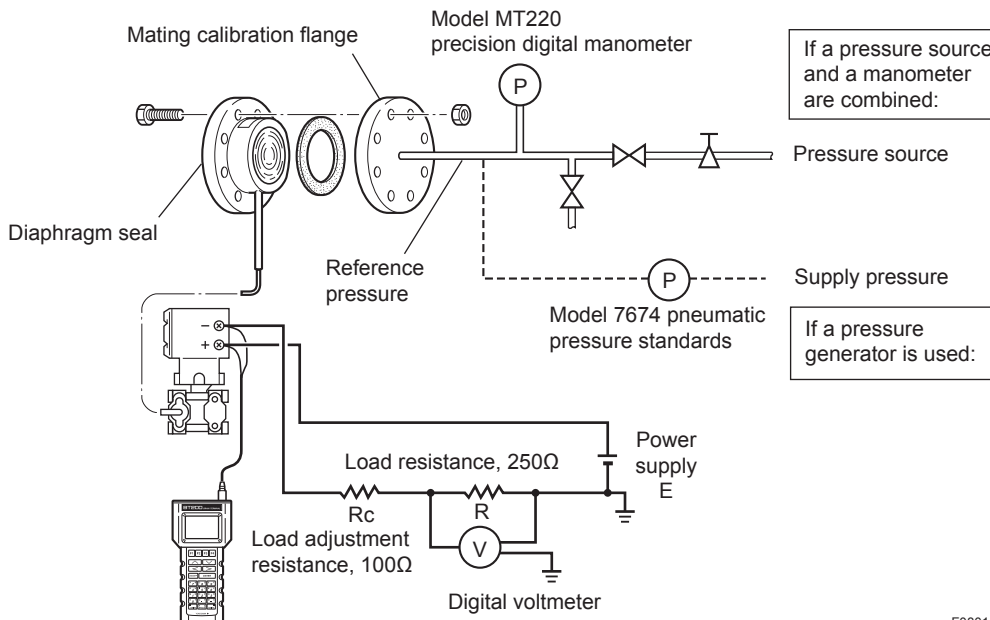

Figure 8.1 Instrument Connections
- 1) Connect the instruments as shown in Figure 8.1 and warm up the instruments for at least five minutes.